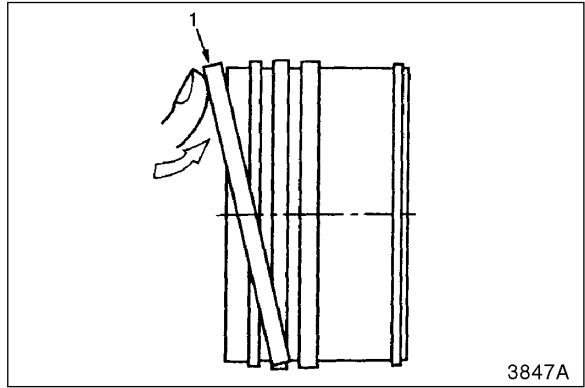

Figure 28
14. Insert one end of slipper seal, (1, Figure 28) into its groove. Use your hand to slide other end of slipper seal into groove.